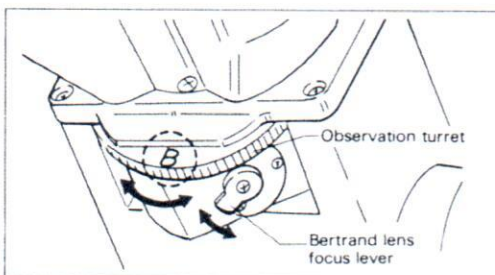

Fig. 8
- ① Set the condenser turret to [O]. Set the observation turret to [O].
- ② Fully open the viewfield and the aperture diaphragms.
- ③ Using the $20\times$ objective, bring the specimen image into focus.
- ④ Change over the observation turret to [B]. Turn the Bertrand lens focus lever to bring the phase-contrast ring inside the objective into focus. (Fig. 8)